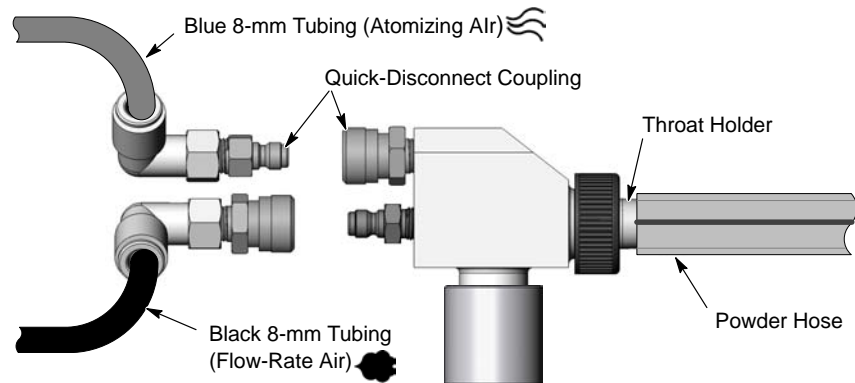

Figure 2-6 Pump Connections
1. Plug the blue atomizing air and black flow-rate air tubing into the pump tube fittings as shown in Figure 2-6.